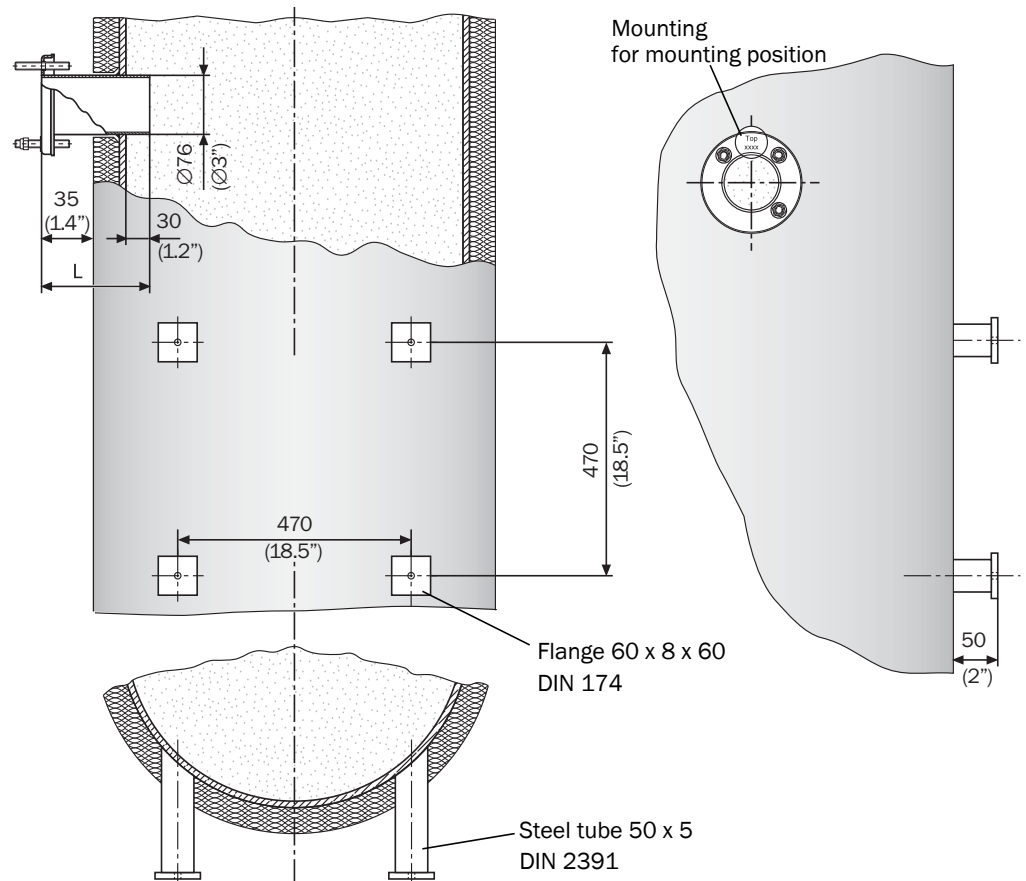

Fig. 5 Recommendation for mounting the flange
Note For mounting of the purge air unit, see mounting proposals; see *Fig. 5, Seite 11*
- ▶ Construct and mount fixings in accordance with the mounting proposals (*Fig. 5, Seite 11*)